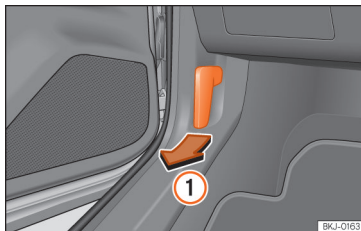

Fig. 183 Release lever in the driver's footwell area.
- Open the door and pull the lever under the dashboard »» Fig. 183 ①.